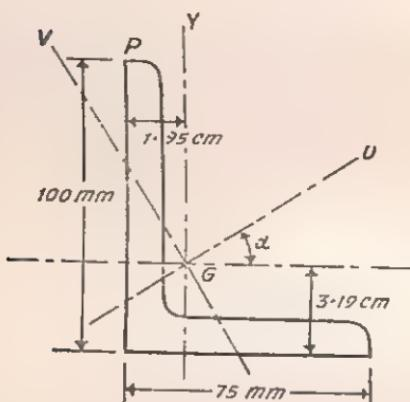

Fig. 63
9. Fig. 63 shows the section of an unequal angle iron. It is subjected to a bending moment M , the plane of which has GY as trace. Calculate the longitudinal stress at the point P . The principal axes are GU and GV ; the moment of inertia about GV is 41.2 cm^4 ; that about GU is 196.1 cm^4 and $\tan \alpha = 0.55$.